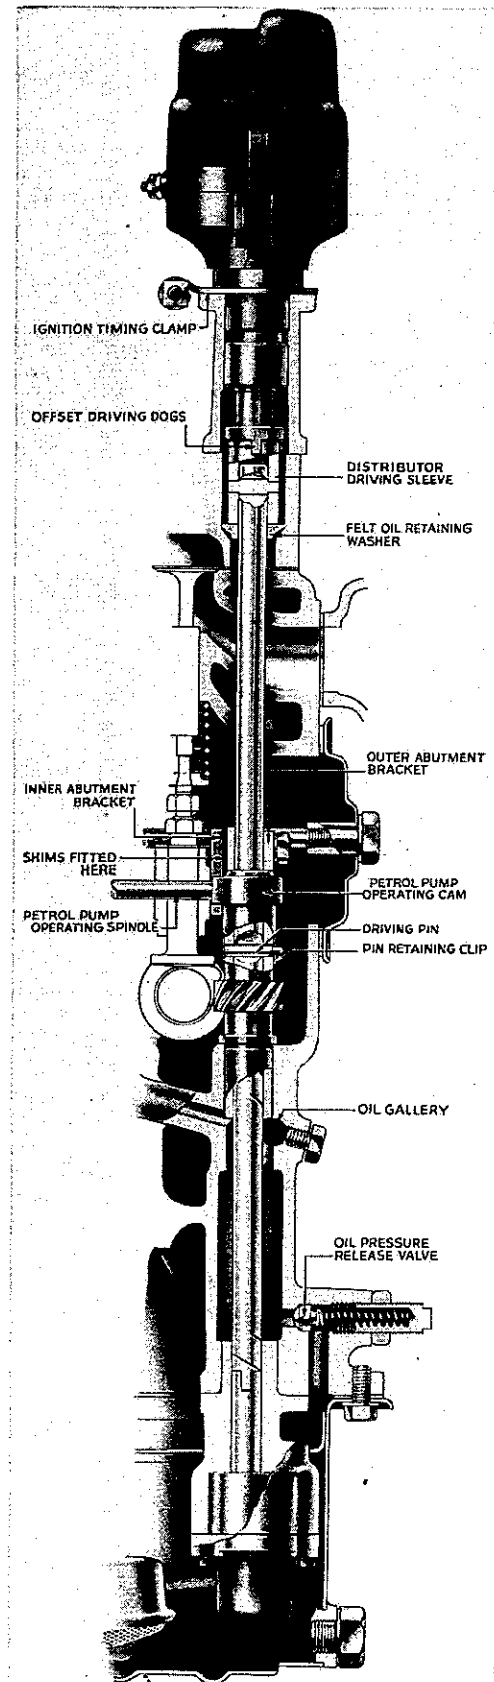

Fig. 26. Distributor and oil pump driving shaft.
Distributor and oil Pump Drive (Fig. 26).
6. Remove the driving pin retaining clip and withdraw the pin (See Fig. 26).